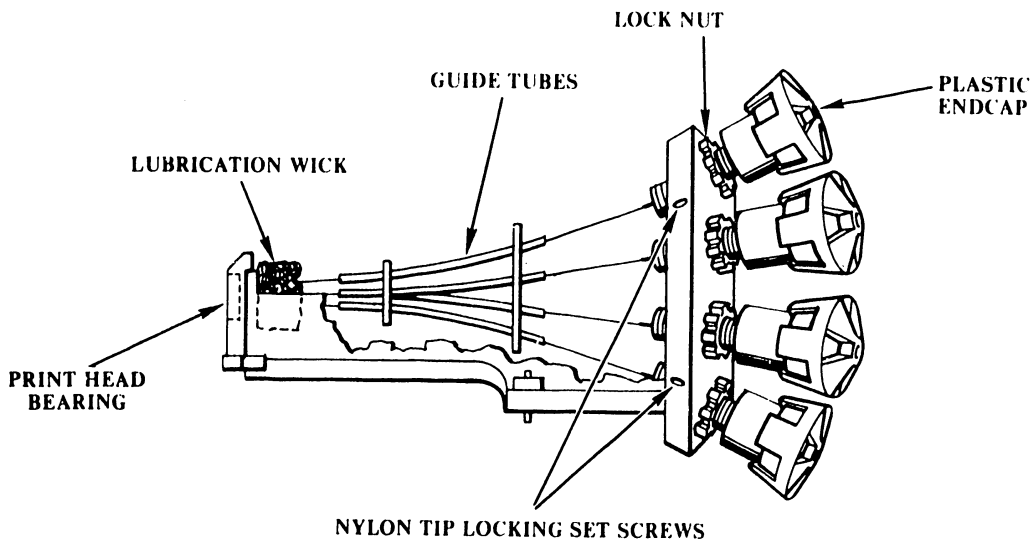
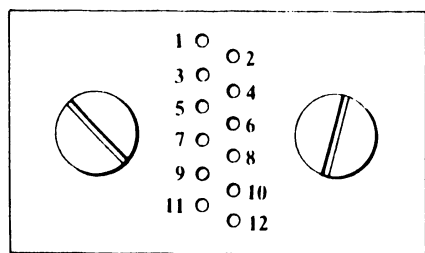

FIGURE 6-14 PRINT HEAD (SIDE VIEW)
FIGURE 6-15 BEARING PLATE
IN STEP 3, WHILE TURNING THE SOLENOID GRASP THE METAL BODY OF THE SOLENOID NOT THE PLASTIC ENDCAP (SEE FIGURE 6-14). USING THE ENDCAP AS A GRIPPING POINT MAY DAMAGE THE COIL WIRES THAT PROTRUDE FROM THE ENDCAP.
- 3) Turn the solenoid to be adjusted (See Figure 6-14) in or out while watching the solenoid wire at the bearing plate (Figure 6-15). All the solenoid wires must be flush with the bearing. Identification of wires and solenoids is shown in Figures 6-15 and 6-16.
- 4) Tighten the nylon-tip locking set screw or lock nut and check bearing again (See Figure 6-14).